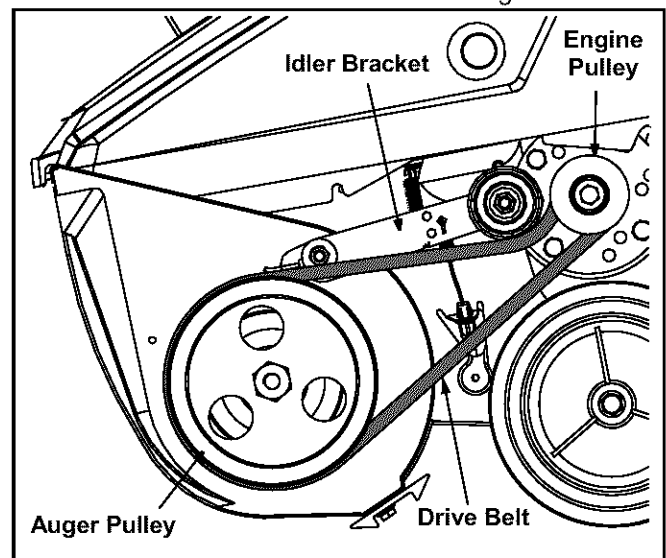

Figure 11
- Gently grasp the idler bracket and pivot it upward to ease tension on the drive belt. See Figure 11.
- While holding the idler bracket up, carefully slip the drive belt off the engine pulley. See Figure 11.
- Carefully slip the drive belt off the auger pulley, freeing it from the snow thrower. See Figure 11. preceding steps in reverse order.